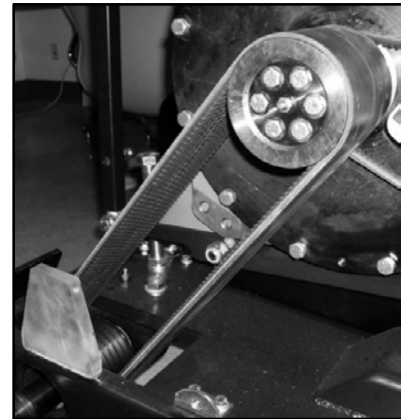

Figure 56: Blade Drive Belts
2. Locate detent pin in rear of the saw. Retract pin by pulling outward and turning to lock open. (Figure 56)